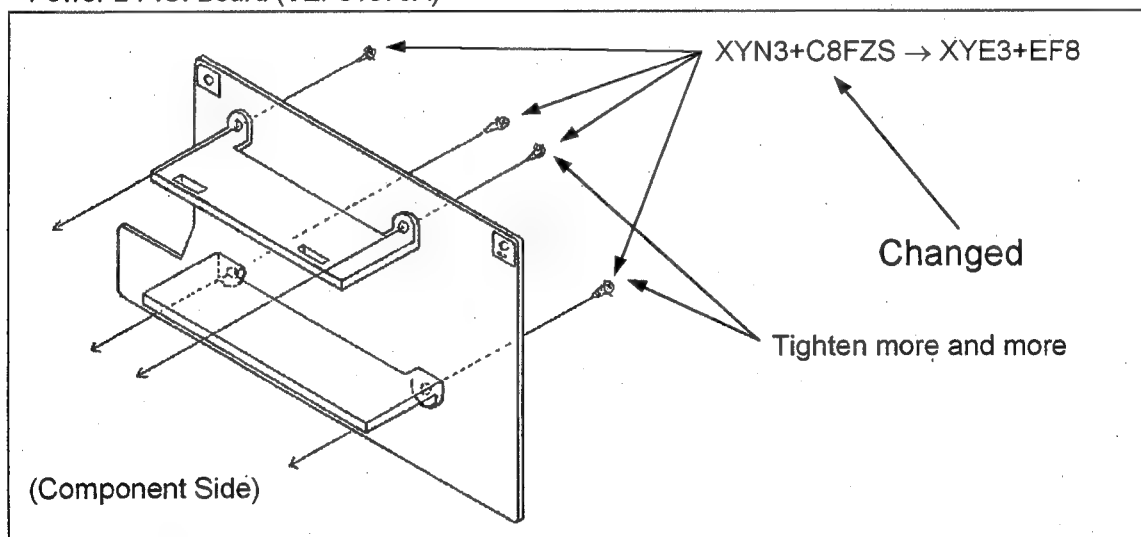

Fig. 4
- 1). Four fixing screws for Heat Sink are changed from XYN3+C8FZS to XYE3+EF8 on the foil side as shown in figure 4.
- 2). After change of screws, two of them are tightened more and more on the foil side as shown in figures 4.
- 2). Four fixing screws for Heat Sink are changed from XYN3+C8FZS to XYE3+EF8 on the foil side as shown in figure 4.